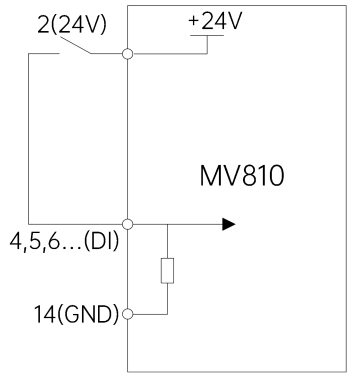

Fig. 4-13 Wiring diagram when the internal +24 V power supply of the drive is used
(1) P09.11=0 (set digital terminal open circuit voltage to 0 V)
① Dry contact mode, shown in Fig. 4-13.